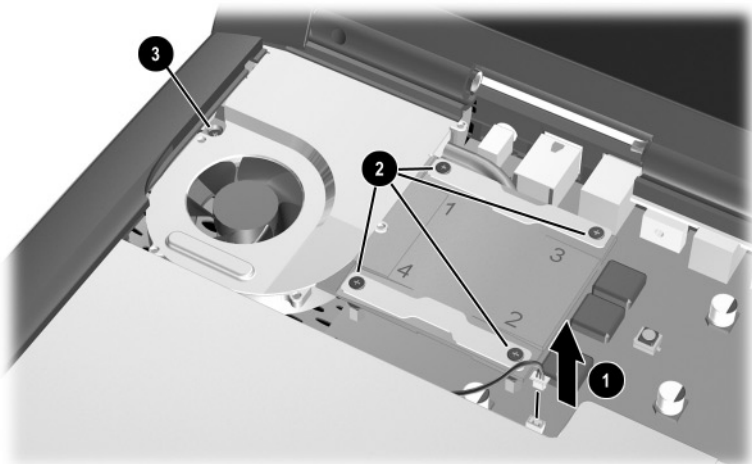

Figure 5-15. Disconnecting the Fan Cable and Loosening the Heat Sink Screws
4. Disconnect the fan cable **❶** from the system board (Figure 5-15).
5. Loosen the four PM2.0 × 20.0 shoulder screws **❷** that secure the heat sink to the processor mounting bracket.
6. Loosen the PM2.0 × 16.0 shoulder screw **❸** that secures the heat sink to the base enclosure.